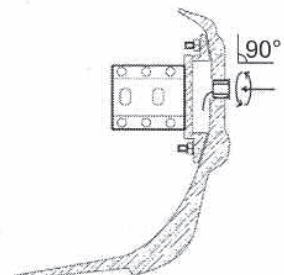

Fig. 6
5. Then insert the sensor into the newly drilled holes, with the wiring going in first (Figure 6). Ensure the sensors are securely in (i.e. flush fit), leaving no gap.